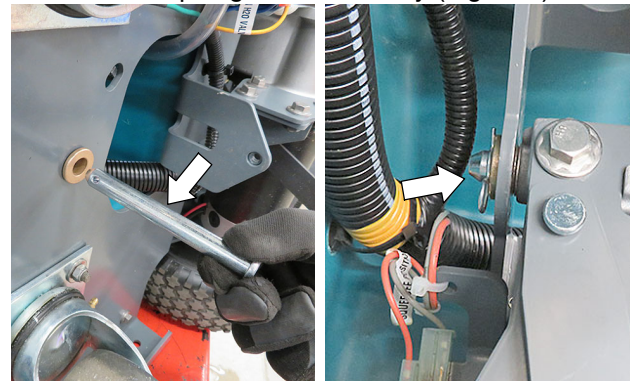

Fig. 8
- Using the new pivot pin and cotter pin from kit, reinstall the squeegee lift assembly (Figure 8).